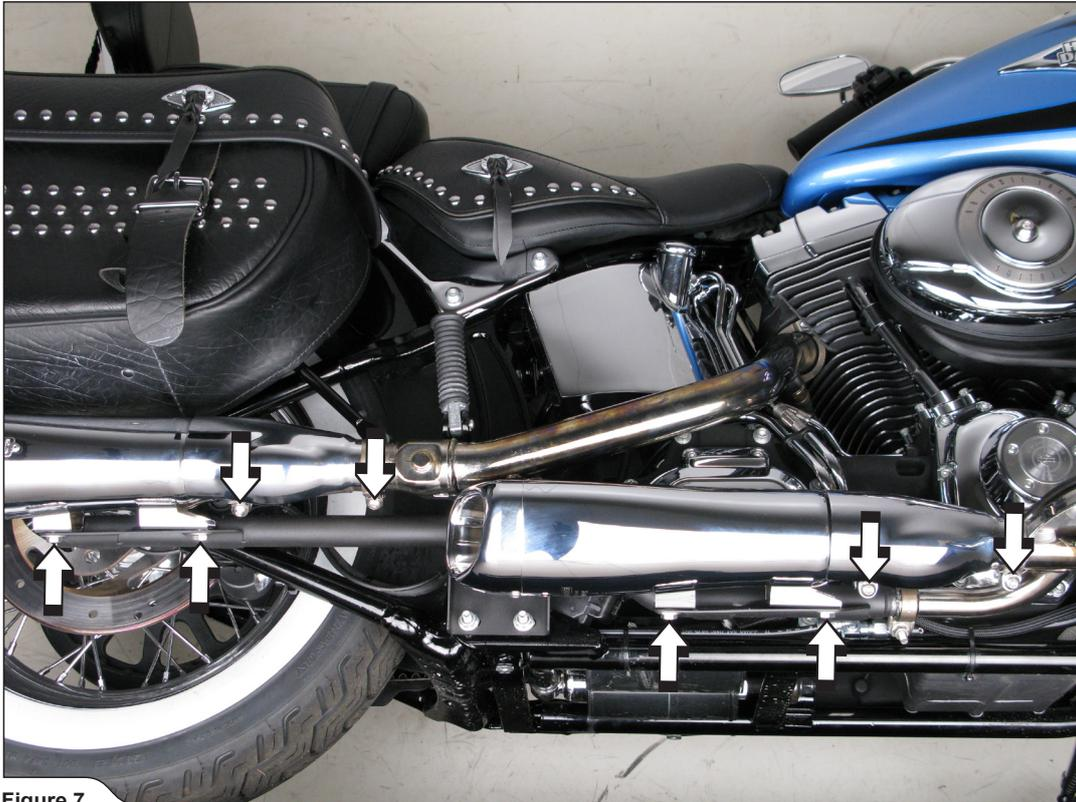

Figure 7
- Slide the assembled mufflers onto the original header. Hand tighten the mufflers' bracket screws and clamps (**Figure 7**).